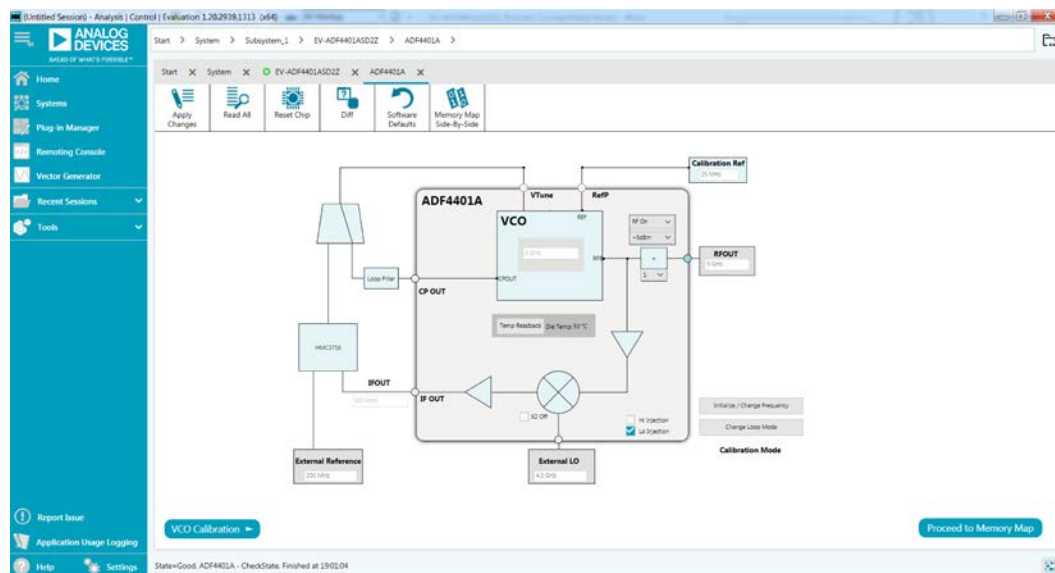
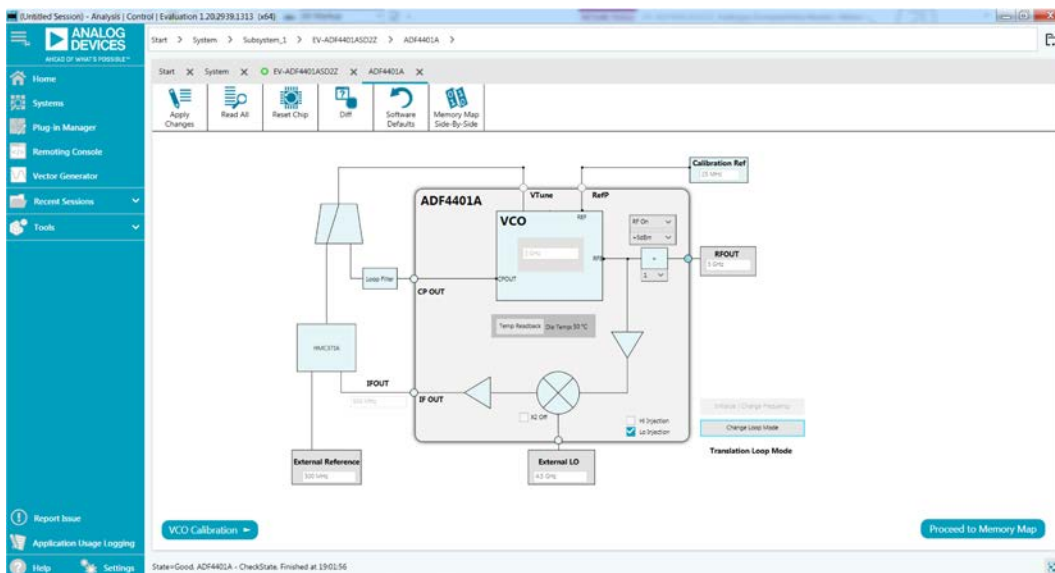

Figure 5. ADF4401A Tab, Main Control Window (Calibration Mode)
Figure 6. ADF4401A Tab, Main Control Window (Translation Loop Mode)
3. Double click the **ADF4401A** icon in the **EV-ADF4401ASD2Z** tab to open the main control window in the **ADF4401A** tab, as shown in Figure 5 and Figure 6.
The main controls in ACE are available in the high level register map shown in Figure 5 and Figure 6. To modify the registers, perform the following steps:
6. When the initialization completes, change the mode from **Calibration Mode** to **Translation Loop Mode** by clicking **Change Loop Mode**. Click this button to return to **Calibration Mode**. The current mode is indicated below the **Change Loop Mode** button, and the switch position is updated accordingly, as shown in Figure 6.
3. Run the ACE software. Set the **Calibration Ref** to 25 MHz, the **External Reference** to 500 MHz, and the **External LO** to 4.5 GHz (see Figure 5).